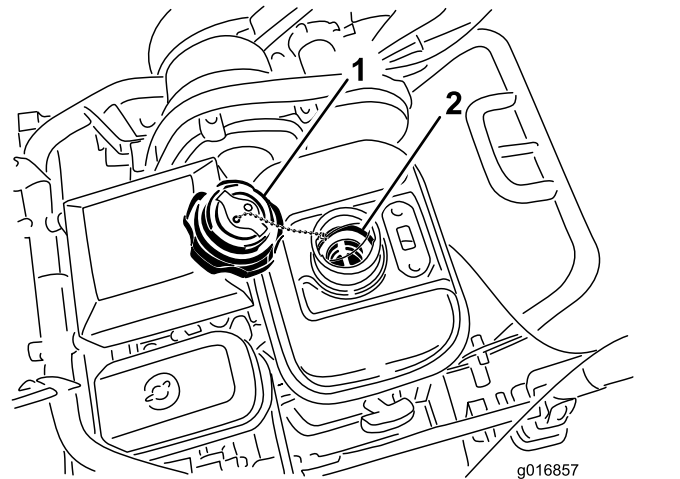

Figure 41
3. Unscrew and remove the fuel-tank cap from the fuel tank (Figure 41).